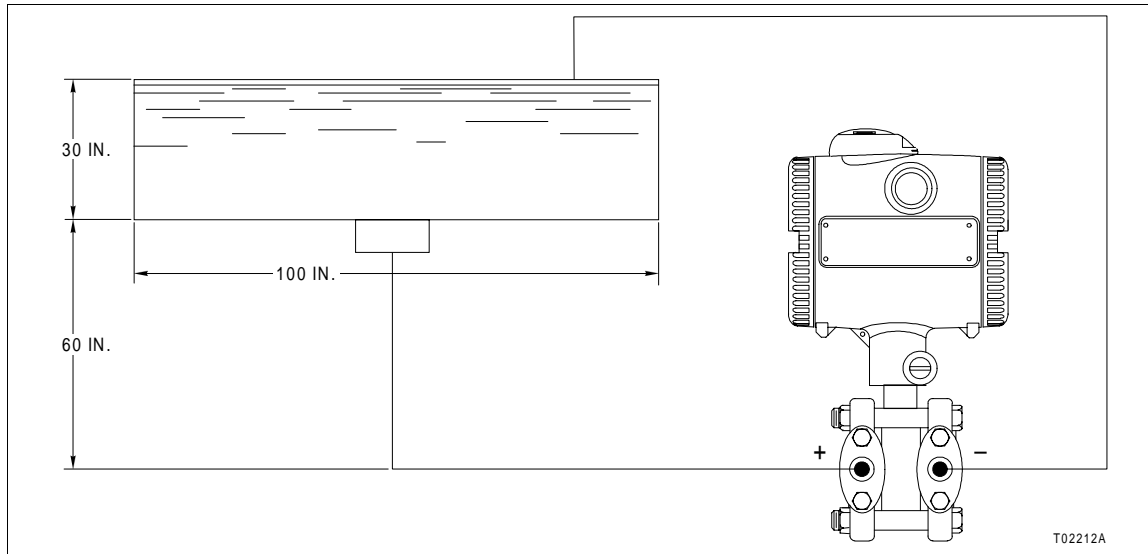

Figure 2-8. Flat End (Cylindrical) Tank Measurement
Figure 2-8 shows a flat end (cylindrical) tank setup. This is a general purpose tank. This procedure shows how to calculate the values entered into the transmitter (via the Type STT terminal) during configuration if VOL./TANK is chosen from the OUTPUT TYPE menu.
- b. If the location of the cell is below the bottom of the tank, as shown in Figure 2-8, then offset the zero by setting the primary lower range value to the pressure corresponding to the distance between the bottom of the tank and the cell times the specific gravity of the liquid.
- b. If the location of the cell is below the bottom of the tank, as shown in Figure 2-8, then the primary upper range value is the height of the tank times the specific gravity of the liquid plus the lower range value.
Example: A Type PTSDDC pressure transmitter is installed as in Figure 2-8, and will be configured in the United States. The tank is filled with water (specific gravity = 1.0). The transmitter has an upper range limit of 120 inches of water. The cell is mounted 60 inches below the bottom of the tank. The tank itself is 30-inches in diameter and 100-inches long. The empty volume is zero and the full volume is 306 gallons.